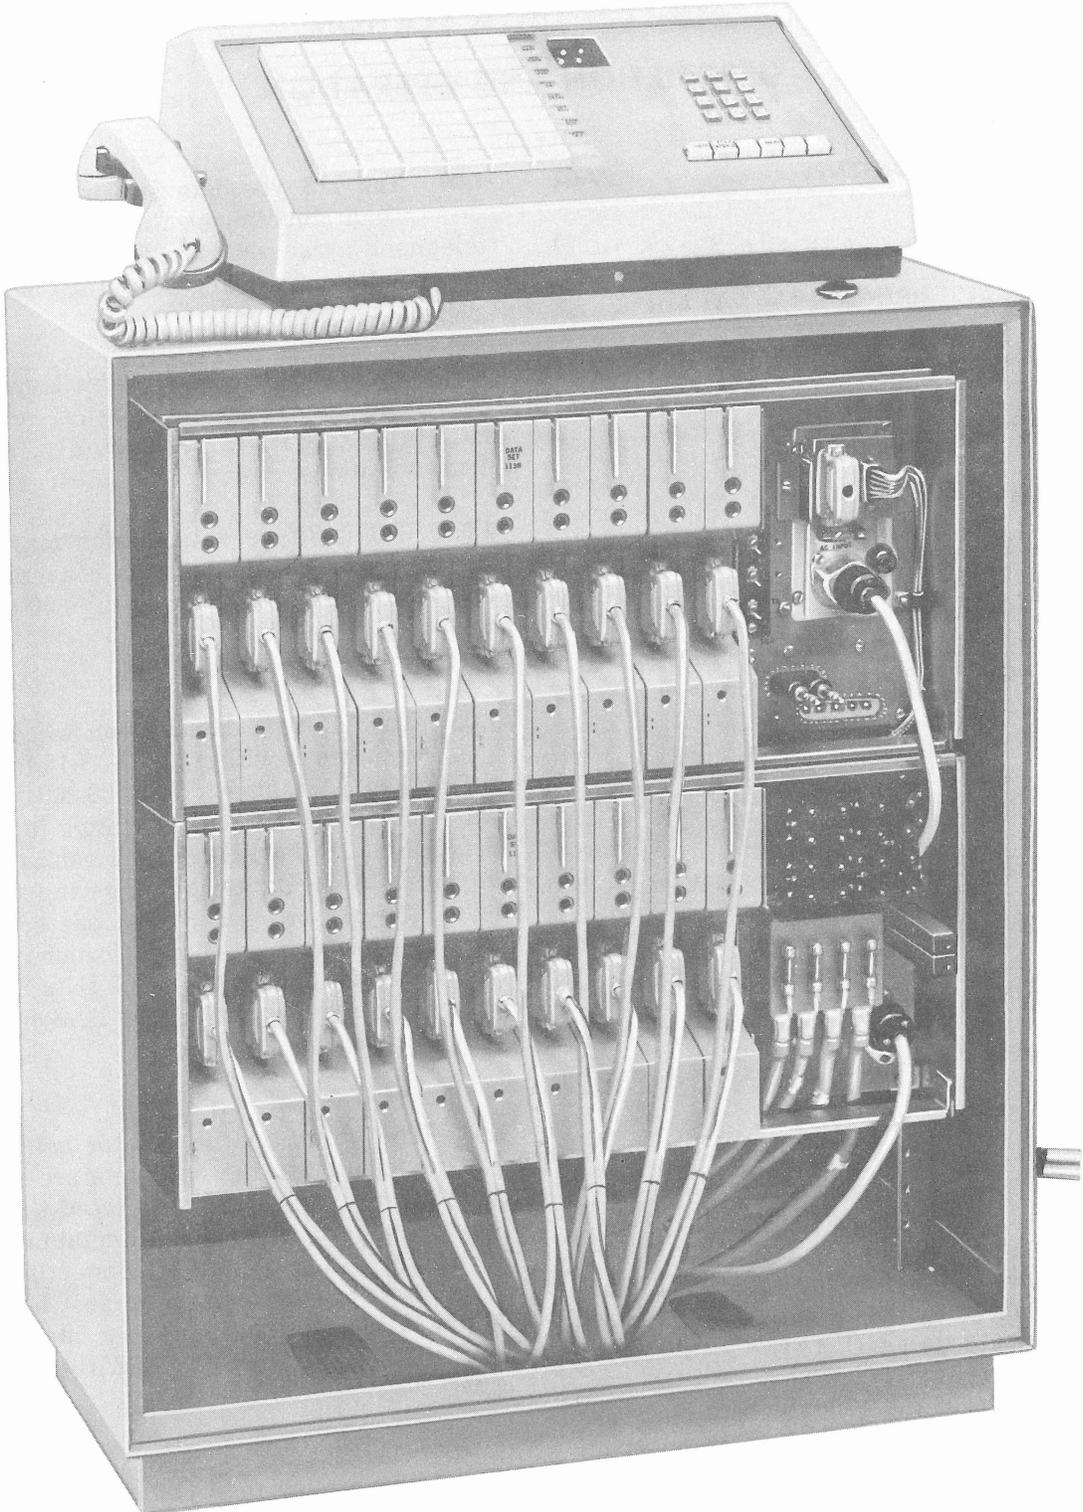

Fig. 1—113-Type Data Station Mounted in a KS-20018-L4 Cabinet—Panel Removed
1.01 This section covers the physical and functional descriptions as well as the operating procedures of the 113-type data station (Fig. 1).